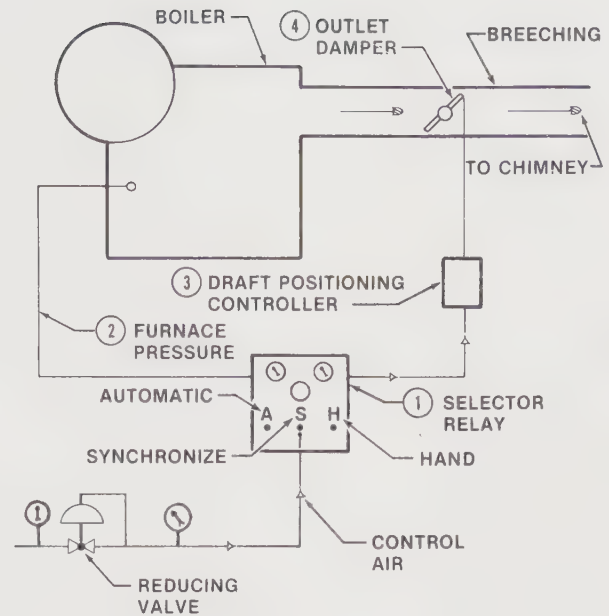

Figure 8-14. Furnace pressure is increased by restricting the flow of gases of combustion through the outlet damper.
The outlet or uptake damper on all fuel systems is controlled by the furnace pressure during automatic operation (balanced draft) or manually from the control panel during manual operation. See Figure 8-14. During automatic operation, the selector relay (1) receives a signal from the furnace pressure (2). The draft positioning controller (3) will position the outlet damper (4) to open or close as the combustion rate increases or decreases.